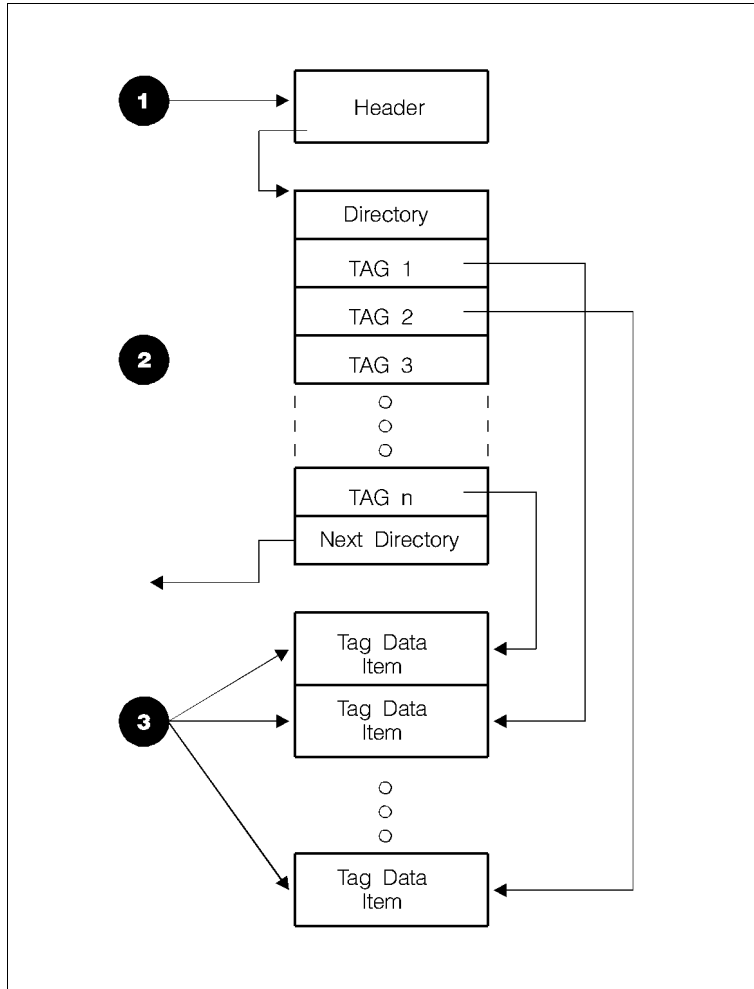

Figure 6-1. TFM File Structure
Figure 6-1 shows the TFM file format. It consists of three types of structures: (1) the header, (2) one or more directories, and (3) the tagged data.